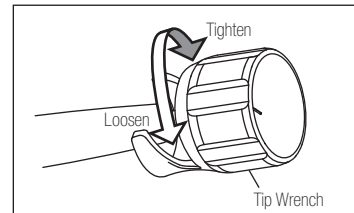

Fig. 5
- 2) Insert the Tip in the provided wrench hole and align the shapes of hole and Tip. Turn the wrench firmly until two or three clicks are heard.(Fig. 5)
- To remove the Tip, mount the wrench over the Tip and turn it in the direction. (Fig. 5)